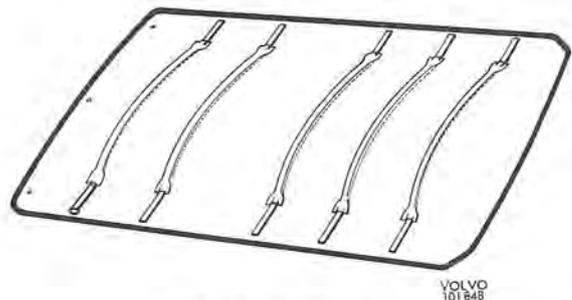

Fig. 8-34. Headlining
5. Fit the stretchers in the new headlining. Make sure that they are provided with rubber caps at the ends as shown in Fig. 8-34.